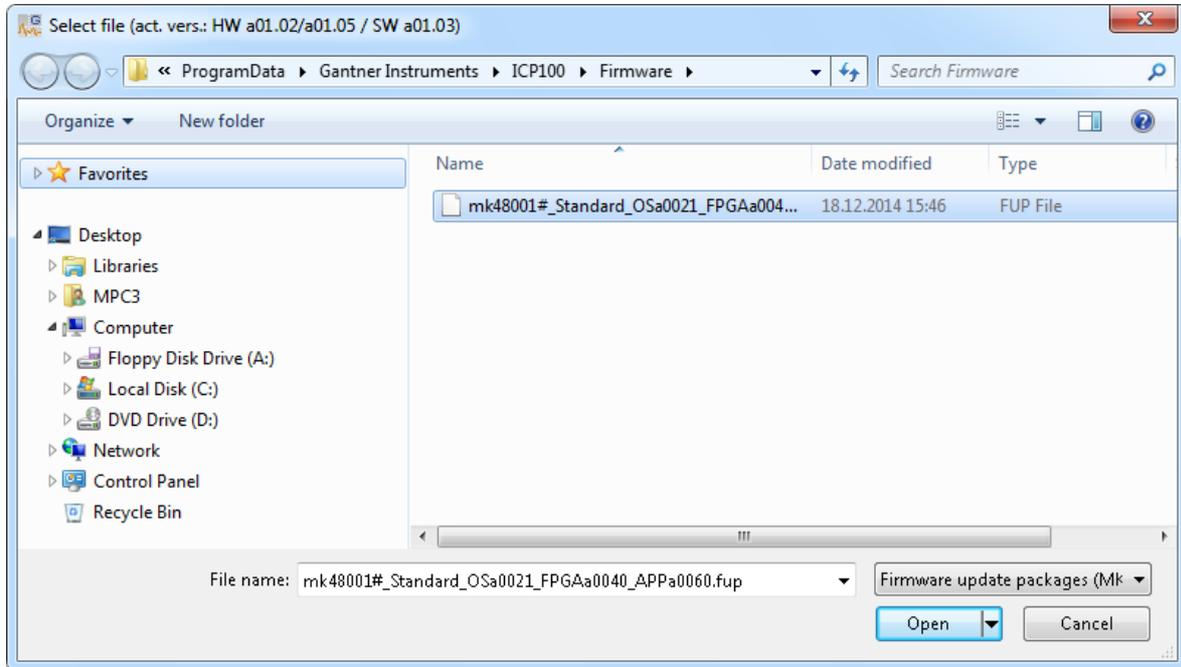

Fig. 6-15 Selecting the firmware.
3. Select the file with the firmware (there is only one suitable for the module and where several are available the relevant latest version is displayed) and click on **Open** (Fig. 6-15).